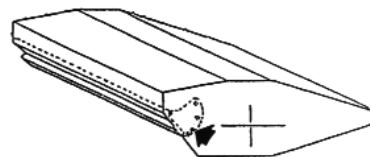

Fig. 4
2. The rear hatch should be in a completely closed position (*Fig. 4*) when used for mulching of prunings, or pulverizing debris.